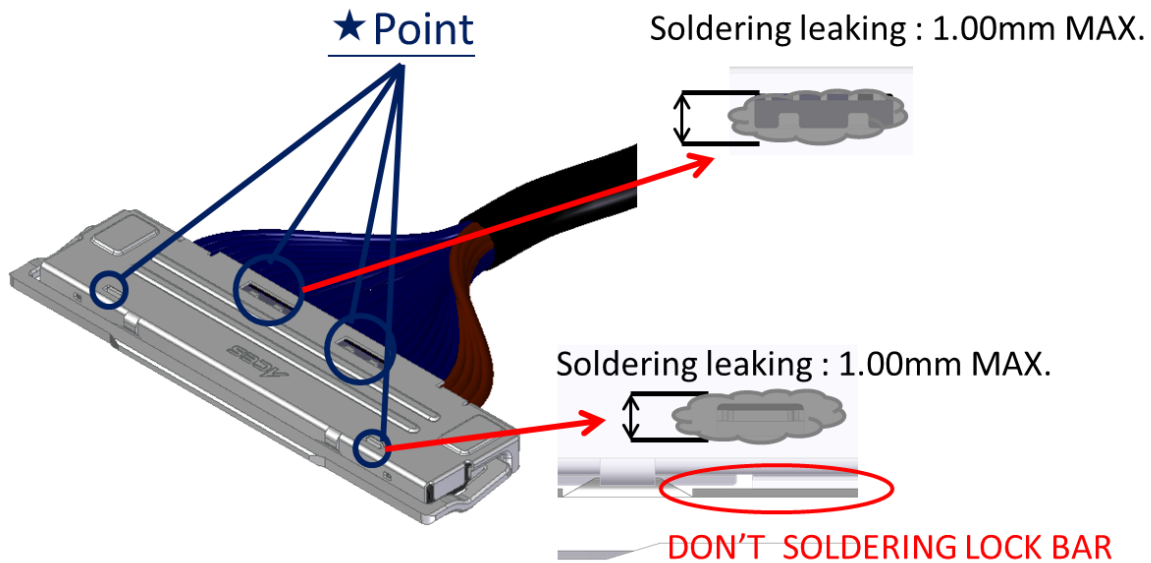

Fig.9 Soldering of SHELL-A and GND BAR
③ Plug-Shell and GND BAR are soldered with the soldering iron at designated point. (Fig.9 ,10 ◆ point)